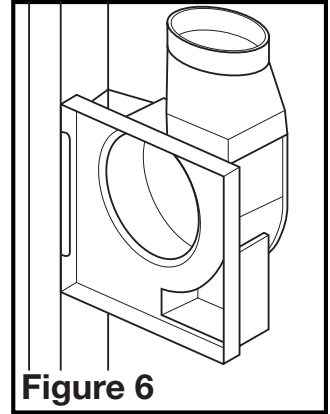

Figure 6
- Snap the fan body into the bracket, making sure the duct collar is pointing upwards towards the ceiling (**Figure 6**).